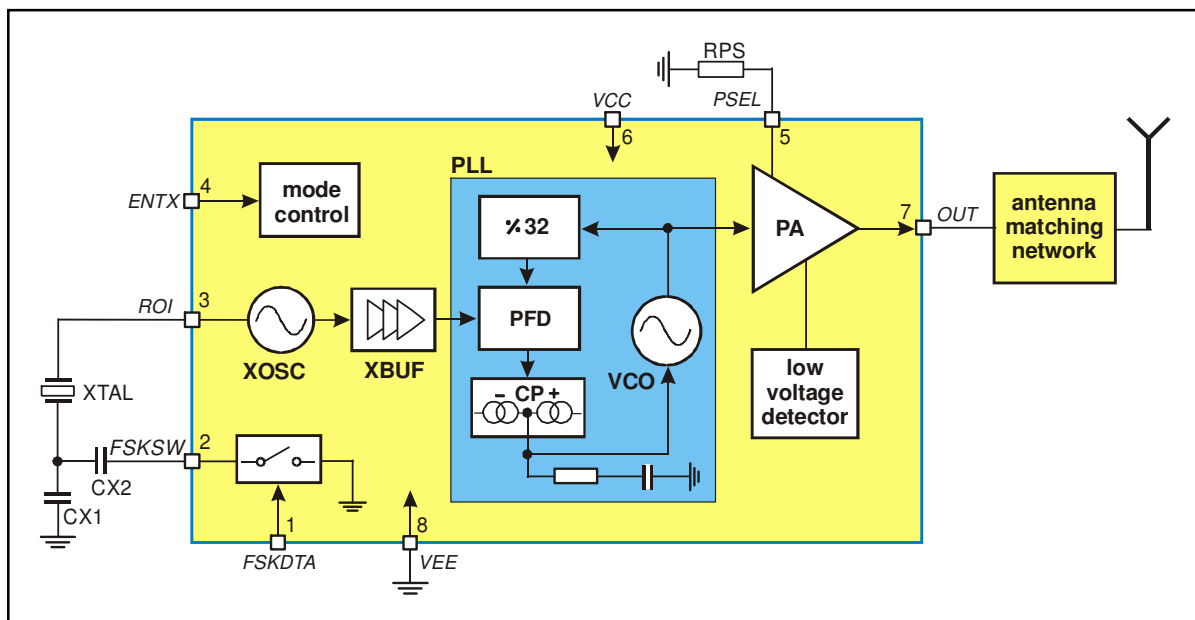

Fig. 1: Block diagram with external components
As depicted in Fig.1, the TH72011 transmitter consists of a fully integrated voltage-controlled oscillator (VCO), a divide-by-32 divider (div32), a phase-frequency detector (PFD) and a charge pump (CP). An internal loop filter determines the dynamic behavior of the PLL and suppresses reference spurious signals. A Colpitts crystal oscillator (XOSC) is used as the reference oscillator of a phase-locked loop (PLL) synthesizer. The VCO's output signal feeds the power amplifier (PA). The RF signal power  $P_{out}$  can be adjusted in four steps from  $P_{out} = -12$  dBm to  $+10$  dBm, either by changing the value of resistor RPS or by varying the voltage  $V_{PS}$  at pin PSEL. The open-collector output (OUT) can be used either to directly drive a loop antenna or to be matched to a 50Ohm load. Bandgap biasing ensures stable operation of the IC at a power supply range of 1.95 V to 5.5 V.